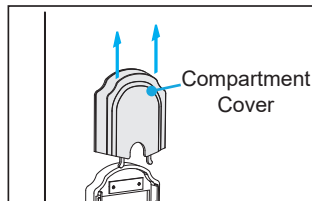
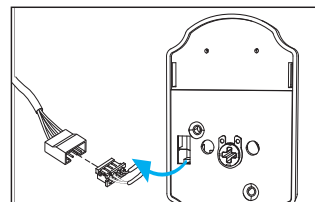

Fig. 9
Fig. 10
Step 4. Remove battery compartment cover (Fig. 9). Then carefully connect the two power cables (Fig. 10). Make sure the connector is seated properly and firmly.